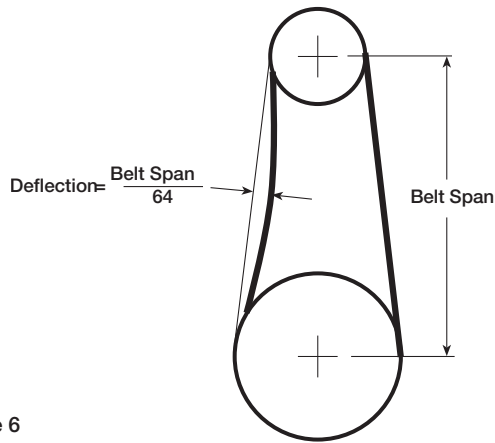

Figure 6
9. Belt tension should be adjusted to allow 1/64 in. (0.397 mm) of deflection per inch of belt span. For example, a 15 in. (381 mm) belt span should have 15/64 in. (0.234 mm) (or about 1/4 in. (6 mm)) of deflection with moderate thumb pressure at mid-point between pulleys (see Figure 6).
Belts too tight or too loose	Refer to Figure 6 and adjust tension.